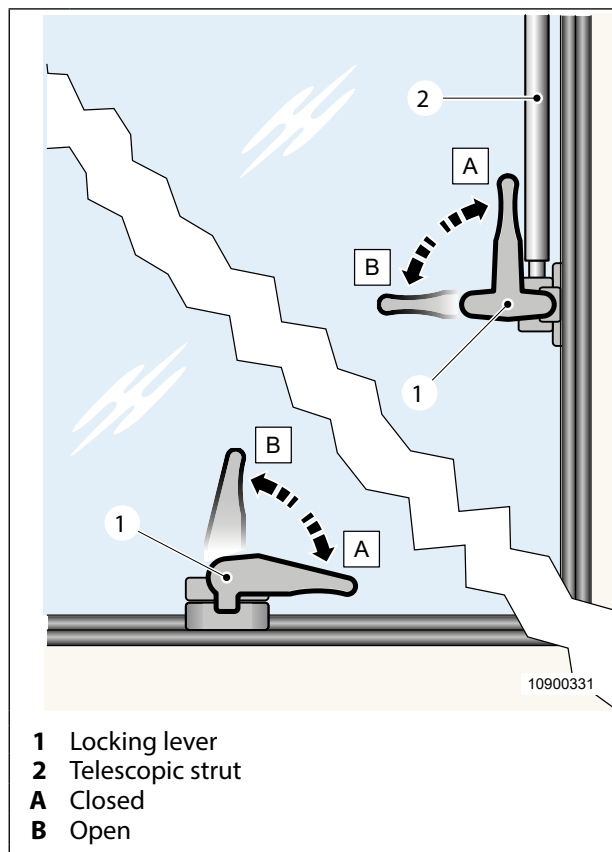

Fig. 18 Opening/closing the quarter vents
1. Turn the locking lever (Fig. 18, item 1) to position B.
2. Open the quarter vent to the desired position. The telescopic strut (Fig. 18, item 2) engages automatically.
3. Turn the locking lever (Fig. 18, item 1) to position A.